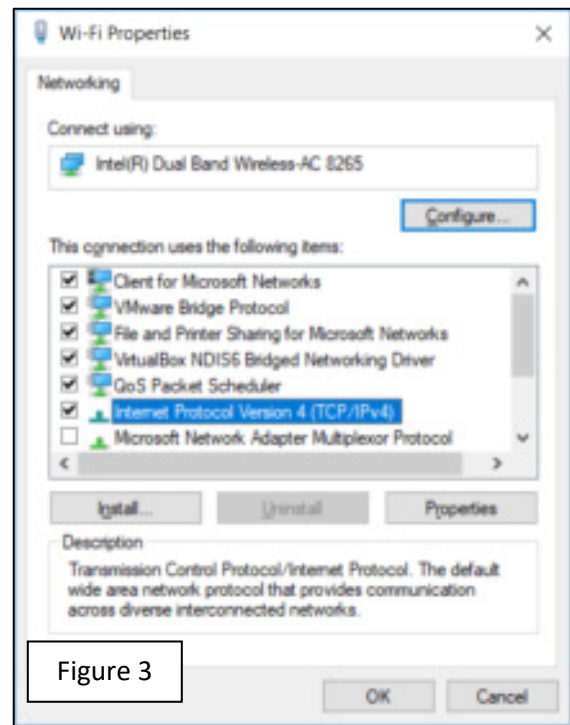

Figure 3
3. Highlight the “Local Area Connection” and right click mouse. A box should appear. Select “Properties” and screen should look like Figure 3.